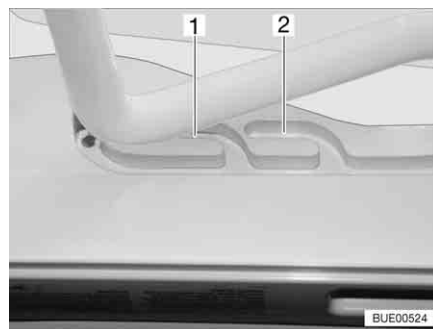
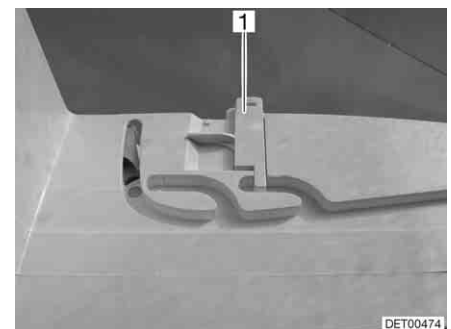

Fig. 56 Heki skylight in ventilation position
Fig. 57 Ventilation position locking mechanism
The Heki skylight can be put in two ventilation positions: Bad weather position (Fig. 56,1) and central position (Fig. 56,2). Depending on the model, the skylight can be locked in the central position with the latch (Fig. 57,1).
- Push the bar slightly upwards and into the selected guide (Fig. 56,1 or 2) and lock if necessary.